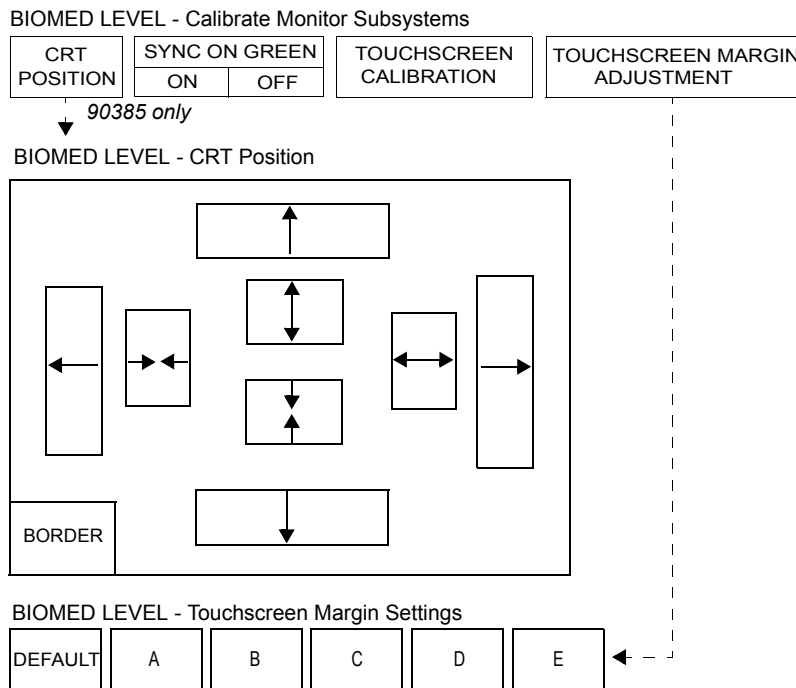

Figure 2-12: 90385 Monitor Calibration menu
2. Verify that the CRT position adjustment keys appear (refer to *Figure 2-12* on page 2-29).